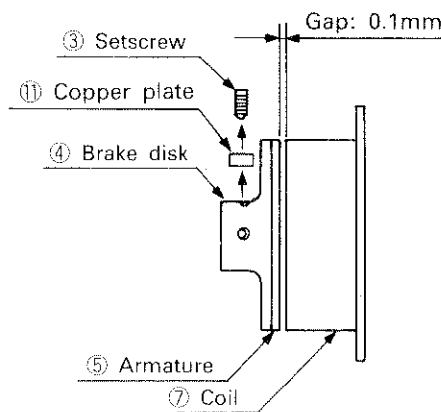

Fig. 4.3.15 Shoulder Brake Parts Identification
- (1) Fig. 4.3.15 identifies the shoulder brake parts.
- (2) Make sure that the power switch on the drive unit rear panel is in the OFF position.
- (3) Remove the upper and lower shoulder covers by referring to 3.2 Removal of the Covers.
- (4) Loosen the two setscrews ③. At this time, use care not to lose the copper plates ⑪. Then, using a feeler gauge, adjust the gap between the armature ⑤ and coil ⑦ to 0.1 mm.
- (5) After the gap has been properly adjusted, tighten the two setscrews ③ securely. At this time, make sure that the copper plate ⑪ is installed between the setscrew ③ and shaft ⑧.
- (1) Fig. 4.3.15 identifies the elbow brake parts.
- (4) Loosen the two setscrews ③. At this time, use care not to lose the copper plates ①. Then, using a feeler gauge, adjust the gap between the armature ⑤ and coil ⑦ to 0.1mm.
- (5) After the gap has been properly adjusted, tighten the two setscrews ③ securely. At this time, make sure that the copper plate ① is installed between the setscrew ③ and shaft ⑧.